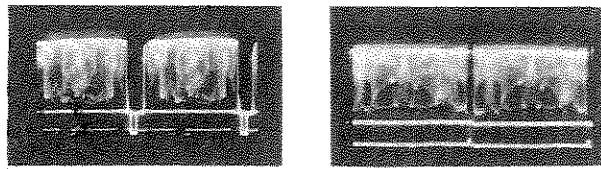

Figure 1A. Horizontal Sync Pulse Figure 1B. Vertical Sync Pulse
- b. Lock the pattern in a stationary position by advancing the SYNC ADJ control. NOTE: To avoid distortion of the pattern, always use the minimum setting of the SYNC ADJ control necessary to hold the pattern still. The pattern obtained on the oscilloscope screen should be similar to that shown in Figure 1A.